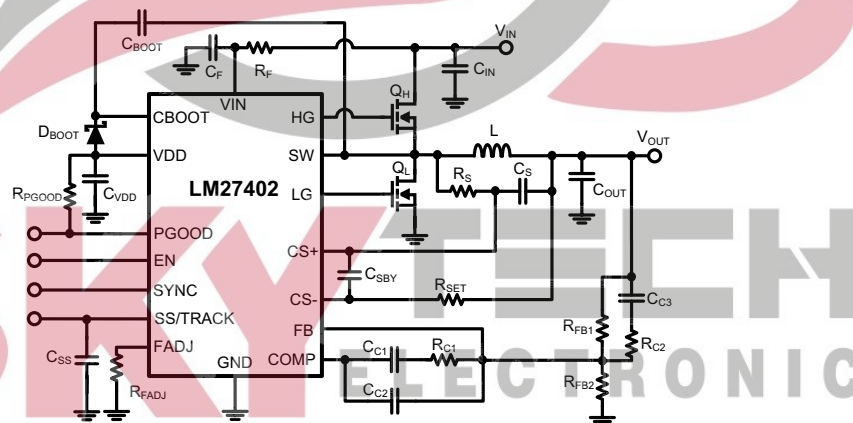

Figure 26. Typical Application Circuit
As with any DC/Dc converter, numerous tradeoffs are required to optimize the design for efficiency, size, or performance. Such tradeoffs are highlighted throughout the following discussion. To facilitate component selection, the circuit shown in Figure 26 may be used as a reference. Unless otherwise indicated, all formulae assume units of Amps (A) for current, Farads (F) for capacitance, Henries (H) for inductance and Volts (V) for voltage.
Figure 26 shows R_F and C_F acting as an RC filter to the VIN pin of the LM27402. The filter is used to attenuate voltage ripple that may exist on the input rail particularly during high output currents. The recommended values of R_F and C_F are 2.2Ω and $1 \mu\text{F}$, respectively. There is a practical limit to the size of R_F as it can cause a large voltage drop if large operating bias currents are present. The VIN pin of the LM27402 must not exceed 150 mV difference from the input voltage rail (V_{IN}).